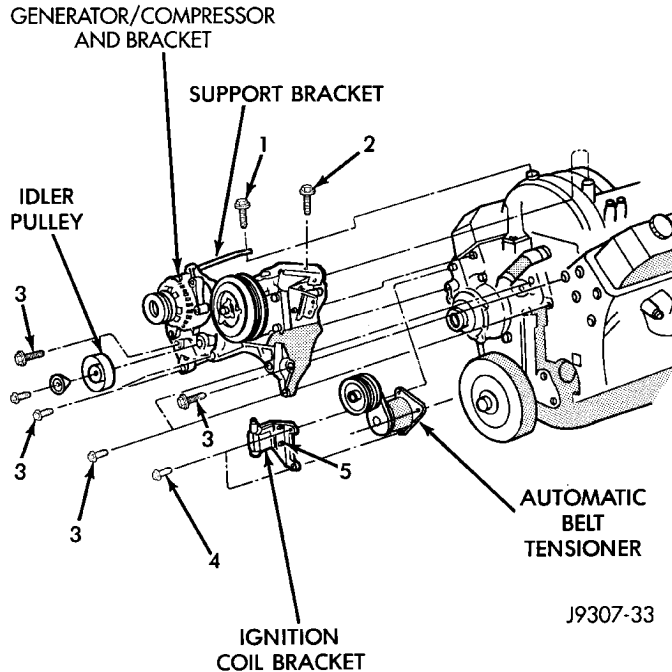

Fig. 53 Generator and A/C Compressor Mounting Bracket—5.2/5.9L Engines
If equipped with A/C, the generator and A/C compressor along with their common mounting bracket (Fig. 53) must be partially removed. Removing generator or A/C compressor from their mounting bracket is not necessary. Also, discharging A/C system is not necessary. **Do not** remove any refrigerant lines from A/C compressor.
(9) The drive belt idler pulley must be removed to gain access to one of A/C compressor/generator bracket mounting bolts. Remove idler pulley bolt and remove idler pulley (Fig. 53).
(10) Remove oil dipstick tube mounting bolt at side of A/C- generator mounting bracket.
(11) Disconnect speed control cable and throttle cable at throttle body. Refer to Accelerator Pedal and Throttle Cable in Group 14, Fuel System for throttle cable removal and installation. Refer to Group 8H for removal and installation of speed control cable.
(12) Remove bracket-to-intake manifold bolts (number 1 and 2) (Fig. 53).
(13) Remove bracket bolts (Fig. 53).
(14) Lift and position generator and A/C compressor (along with their common mounting bracket) to
- (4) Install generator-A/C mounting bracket assembly to engine. Tighten bolts (number 1 and 2) (Fig. 53) to 54 N·m (40 ft. lbs.) torque. Tighten bolts (number 3) (Fig. 53) to 40 N·m (30 ft. lbs.) torque.